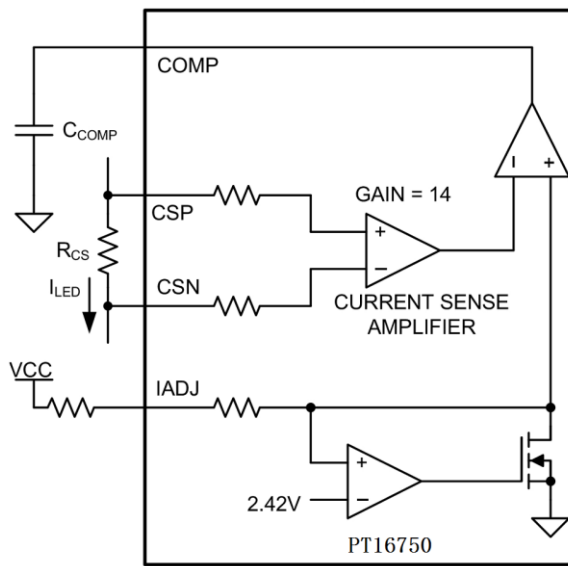
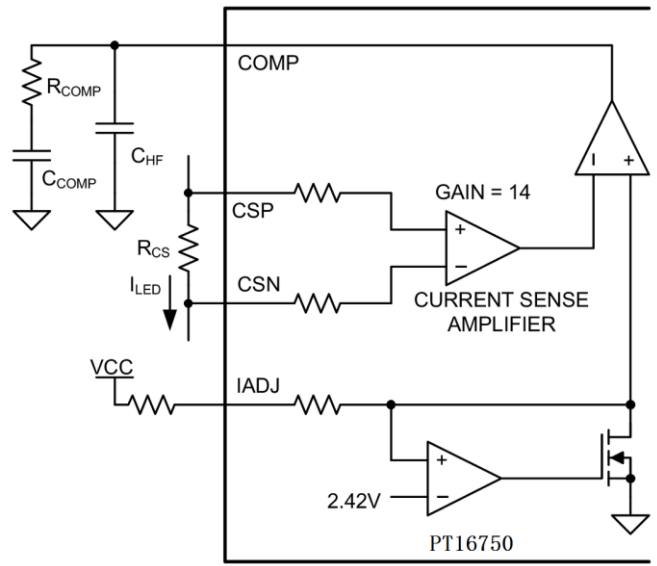

Figure 15. Integral Compensation
Figure 16. Proportional-Integral Compensation
The feedback transfer function includes the current sense resistor and the loop compensation of the transconductance amplifier. A compensation network at the output of the error amplifier is used to configure loop gain and phase characteristics. A simple capacitor,  $C_{COMP}$ , from COMP to GND (as shown in Figure 15) provides integral compensation and creates a pole at the origin. Alternatively, a network of  $R_{COMP}$ ,  $C_{COMP}$ , and  $C_{HF}$ , shown in Figure 16, can be used to implement proportional and integral (PI) compensation and to create a pole at the origin, a low-frequency zero, and a high-frequency pole.